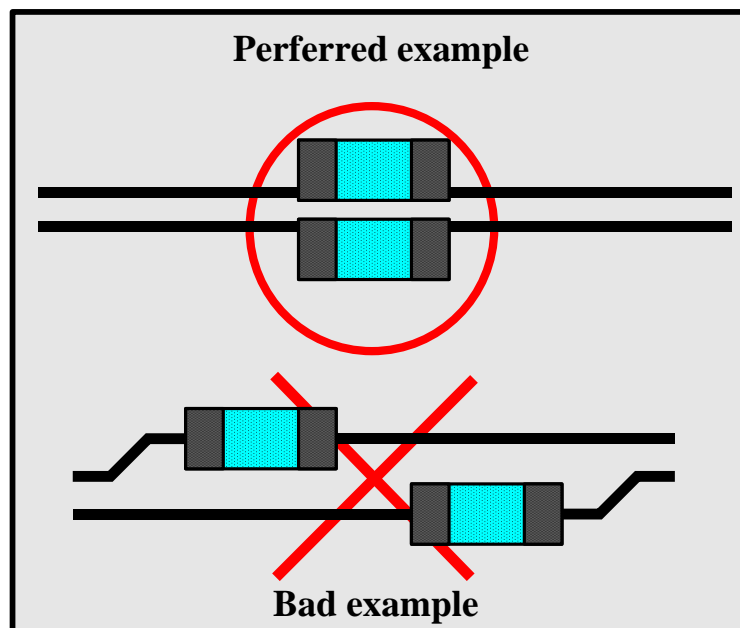

Figure 2.1
*The AC coupling Capacitor should be placed by closing to Connector.* The capacitor body size should be less than or equal to 0603 (**0402 is recommended**). And AC coupling capacitor must be placed symmetrically. (as shown in **Fig. 2.1**)